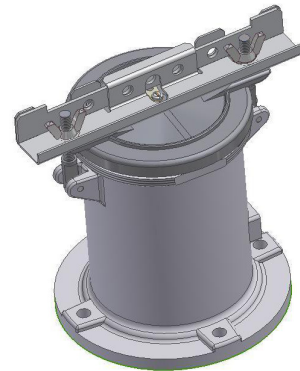

Figure 3
1. Prepare components as shown in figure 3.
5. Slide the locking bar in place until it is flush with both ends of the locking bracket as shown in Figure 3.